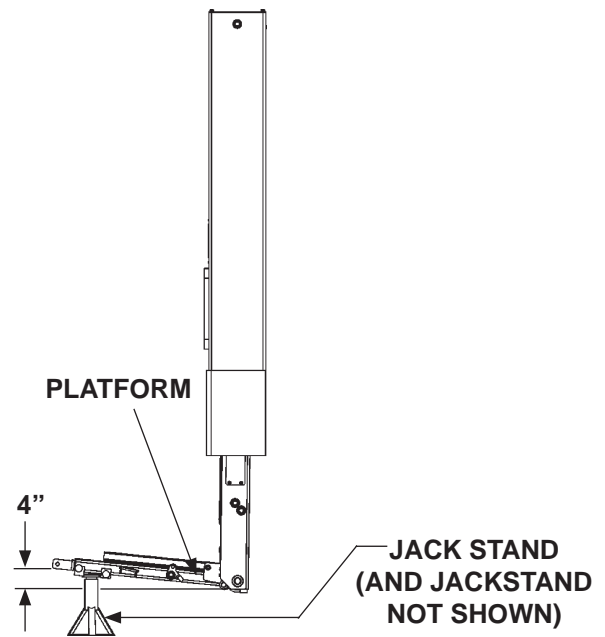

FIG. 35-1
33. Use control box to lower (**DOWN**) platform on jack stands (**FIG. 35-1**) so inboard edge is 4" below ramp edge.